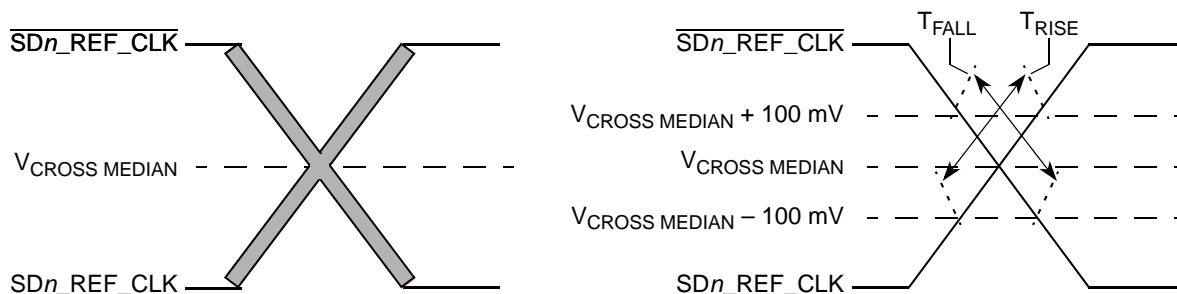

Figure 32. Single-Ended Measurement Points for Rise and Fall Time Matching
4. Matching applies to rising edge rate for SDn_REF_CLK and falling edge rate for $\overline{\text{SDn_REF_CLK}}$. It is measured using a 200 mV window centered on the median cross point, where SDn_REF_CLK rising meets $\overline{\text{SDn_REF_CLK}}$ falling. The median cross point is used to calculate the voltage thresholds the oscilloscope is to use for the edge rate calculations. The rise edge rate of SDn_REF_CLK should be compared to the fall edge rate of $\overline{\text{SDn_REF_CLK}}$, the maximum allowed difference should not exceed 20% of the slowest edge rate. See Figure 32.